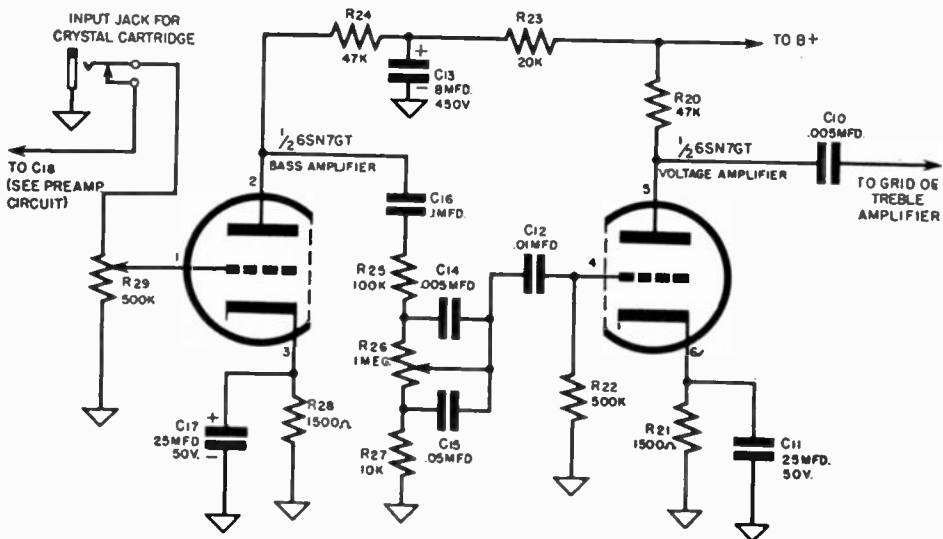

Fig. 5-27. Bass amplifier-voltage amplifier circuit.
f) Bass Amplifier-Voltage Amplifier. See Figure 5-27.